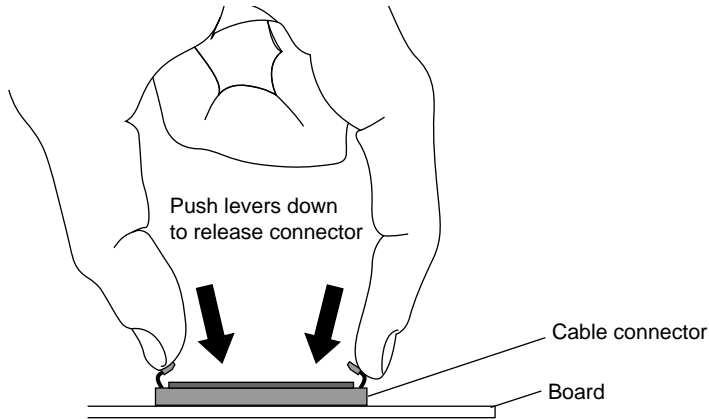

Figure 5-21 Releasing Flex Connectors
- Press down on the levers to release the connector. See Figure 5-21.